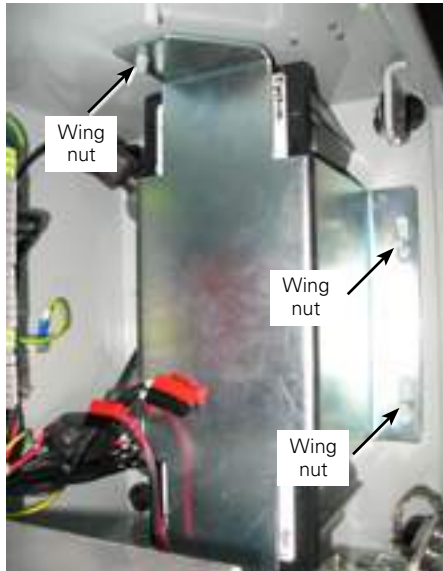

Figure 44. Reinstall wing nuts and battery bracket
8. Re-install the battery bracket (Figure 44).
9. Re-install and tighten the wing nuts. (Figure 44).